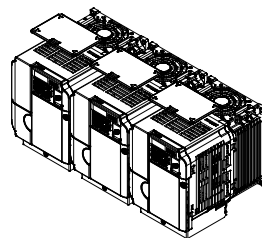

Figure 2.4 IP20/NEMA 1, UL Type 1 Side-by-Side Mounting in Enclosure
**NOTICE:** When mounting IP20/NEMA 1, UL Type 1 enclosure drives side by side, the top covers of all drives must be removed as shown in Figure 2.4.